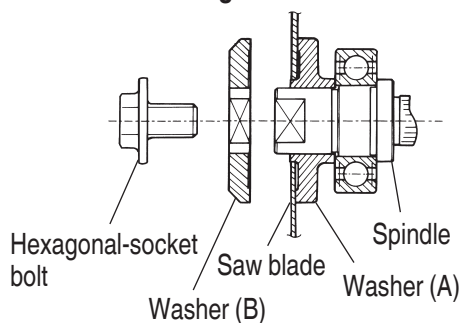

Fig. 13
- (1) Thoroughly remove any sawdust which has accumulated on the spindle, bolt and washers.
- (2) As shown in **Fig. 13**, the side of Washer (A) with a projected center the same diameter as the inner diameter of the saw blade and the concave side of Washer (B) must be fitted to the saw blade sides.
* Washer (A) is supplied for 2 types of saw blades with the hole diameters of 16 mm and 30 mm. (When buying the Circular Saw, one type of washer (A) is supplied.) In case the hole diameter of your saw blade does not correspond to that of washer (A), please contact the shop where you purchased the Circular Saw.